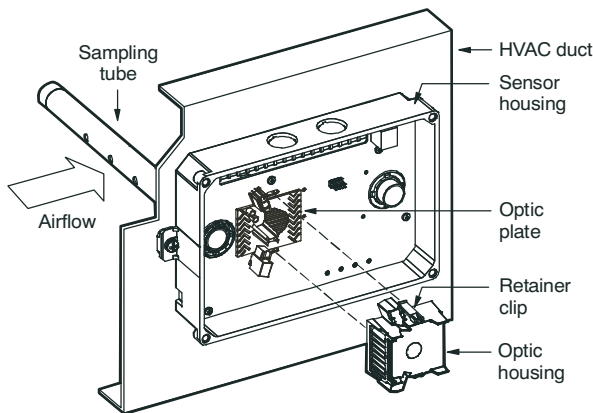

Fig. 12 – Sensor Cleaning Diagram
2. Using a vacuum cleaner, clean compressed air, or a soft bristle brush, remove loose dirt and debris from inside the sensor housing and cover. (See Fig 12.)